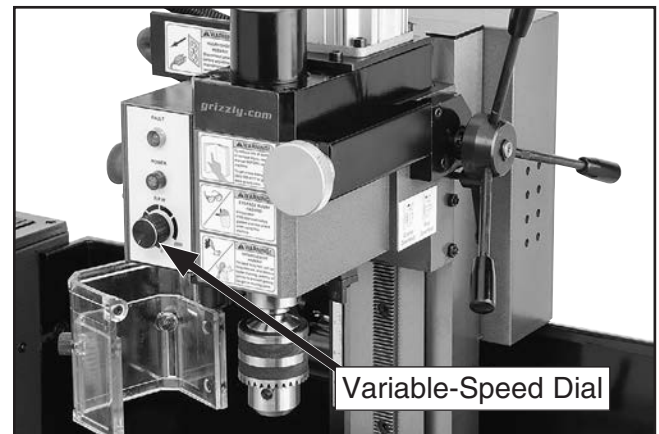

Figure 95. Location of milling head variable-speed dial.
2. Rotate variable-speed dial (see **Figure 95**) clockwise to select mill speed from 100–2500 RPM. Rotate dial further clockwise to increase speed or counterclockwise to decrease speed.